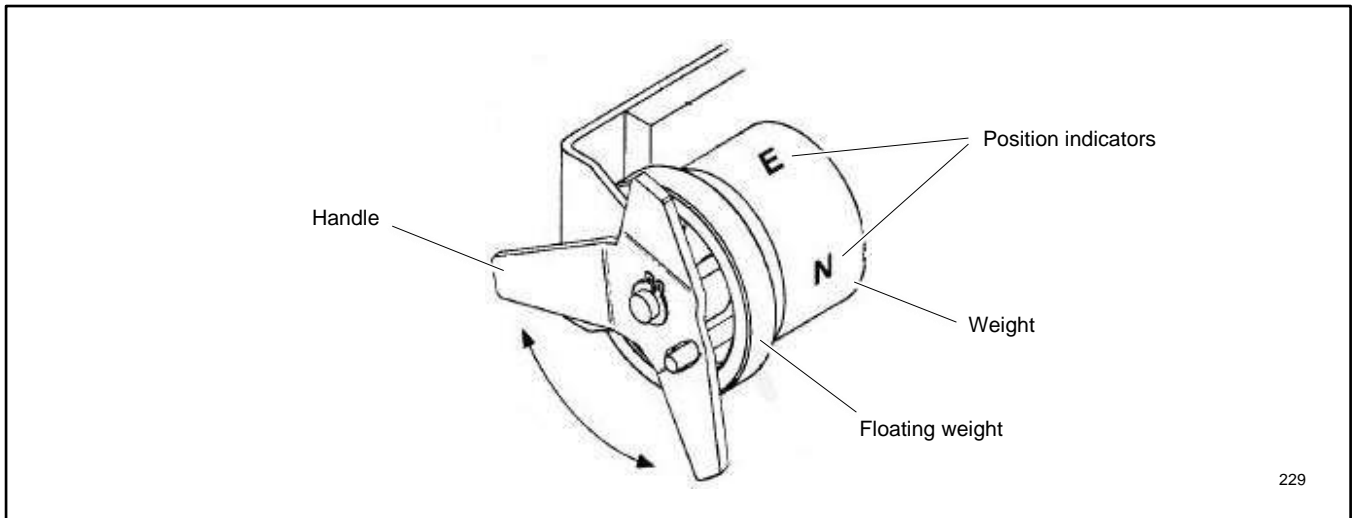

Figure 6 Manual Operation Handle, 70-225 Amp Model KUS
The 70-225 amp standard-transition models have an attached manual operating handle. See Figure 6.
2. To manually operate the transfer switch, turn the attached handle by hand. See Figure 6. The maintenance handle turns in the opposite direction of the weight. It should operate smoothly without any binding. If it does not, check for shipping damage or construction debris.